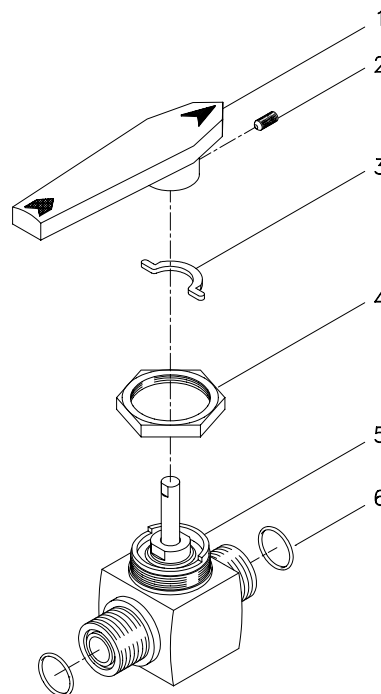

Figure 6-23. Ball Valves (ALP-V210, ALP-V304, ALP-V305, ALP-V306)
- (1) Ensure replacement valve has been cleaned in accordance with MIL-STD-1330 or other approved NAVSEA cleaning procedure for life support systems.
- (2) Beginning at third thread from end, wrap Teflon® tape onto threaded portion of new relief valve in clockwise direction. Apply a light coat of silicone grease to Teflon® tape.
- (3) Install relief valve in volume tank adapter (ALP-V207) or elbow (ALP-V211) and hand tighten. Using the appropriate tool, tighten valve one complete revolution beyond hand-tight.
- (4) Pressurize volume tank, and leak test valve using NID solution prepared in accordance with paragraph 4.7.3.2. Tighten until no leaks are detected.
- (5) Complete reentry control report and log.
6.8.4.7 Ball Valve (ALP-V210). Volume tank ball valve (ALP-V210) is one of four ball valves used in the LWDS MK 3 Mod 0 that are identical except for the color of the handles. The other three valves of this type are ALP-V304, ALP-V305, and ALP-V306, which are located in the control console assembly. ALP-V210 features a black handle, while the three control console valves (ALP-V304, -V305, -V306) feature a red, green, and yellow handle, respectively. Corrective maintenance for the four ball valves, which is limited to removal and replacement, is presented in the following procedure, with a reference to removal and reinstallation of the control console panel for the control console valves provided in paragraph 6.8.5.5. Refer to Figure 6-23 for parts location and to Figure 7-21 for an index of replacement parts.